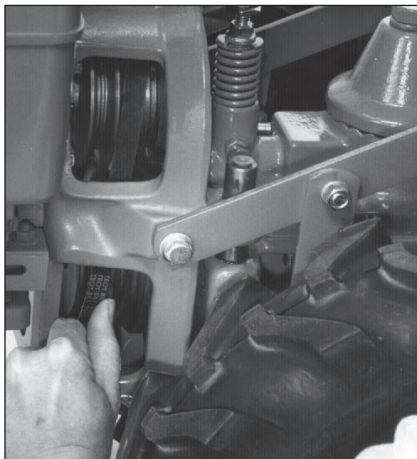

Figure 4-10: Low range to high range. Shows moving belt from lower-rear groove onto lower-front groove.
3. Kneel on *left side* of tiller. To create belt slack, reach over to *right side* of the pulleys and push in at the center of the belt with a finger. At the same time, use your left hand to work the belt part-way onto the lower-front transmission pulley groove (Figure 4-10).